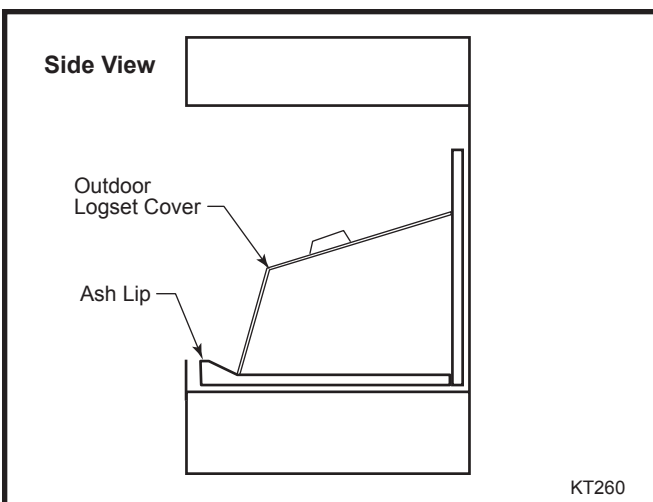

Fig. 14 ODLSSC installation side view.
1. Place the bottom edge of one side of the cover on the front edge of the hearth brick just behind the ash lip (Fig. 14), inside the screens. Allow the back edge of the cover to rest against the back and side brick, covering the log set.